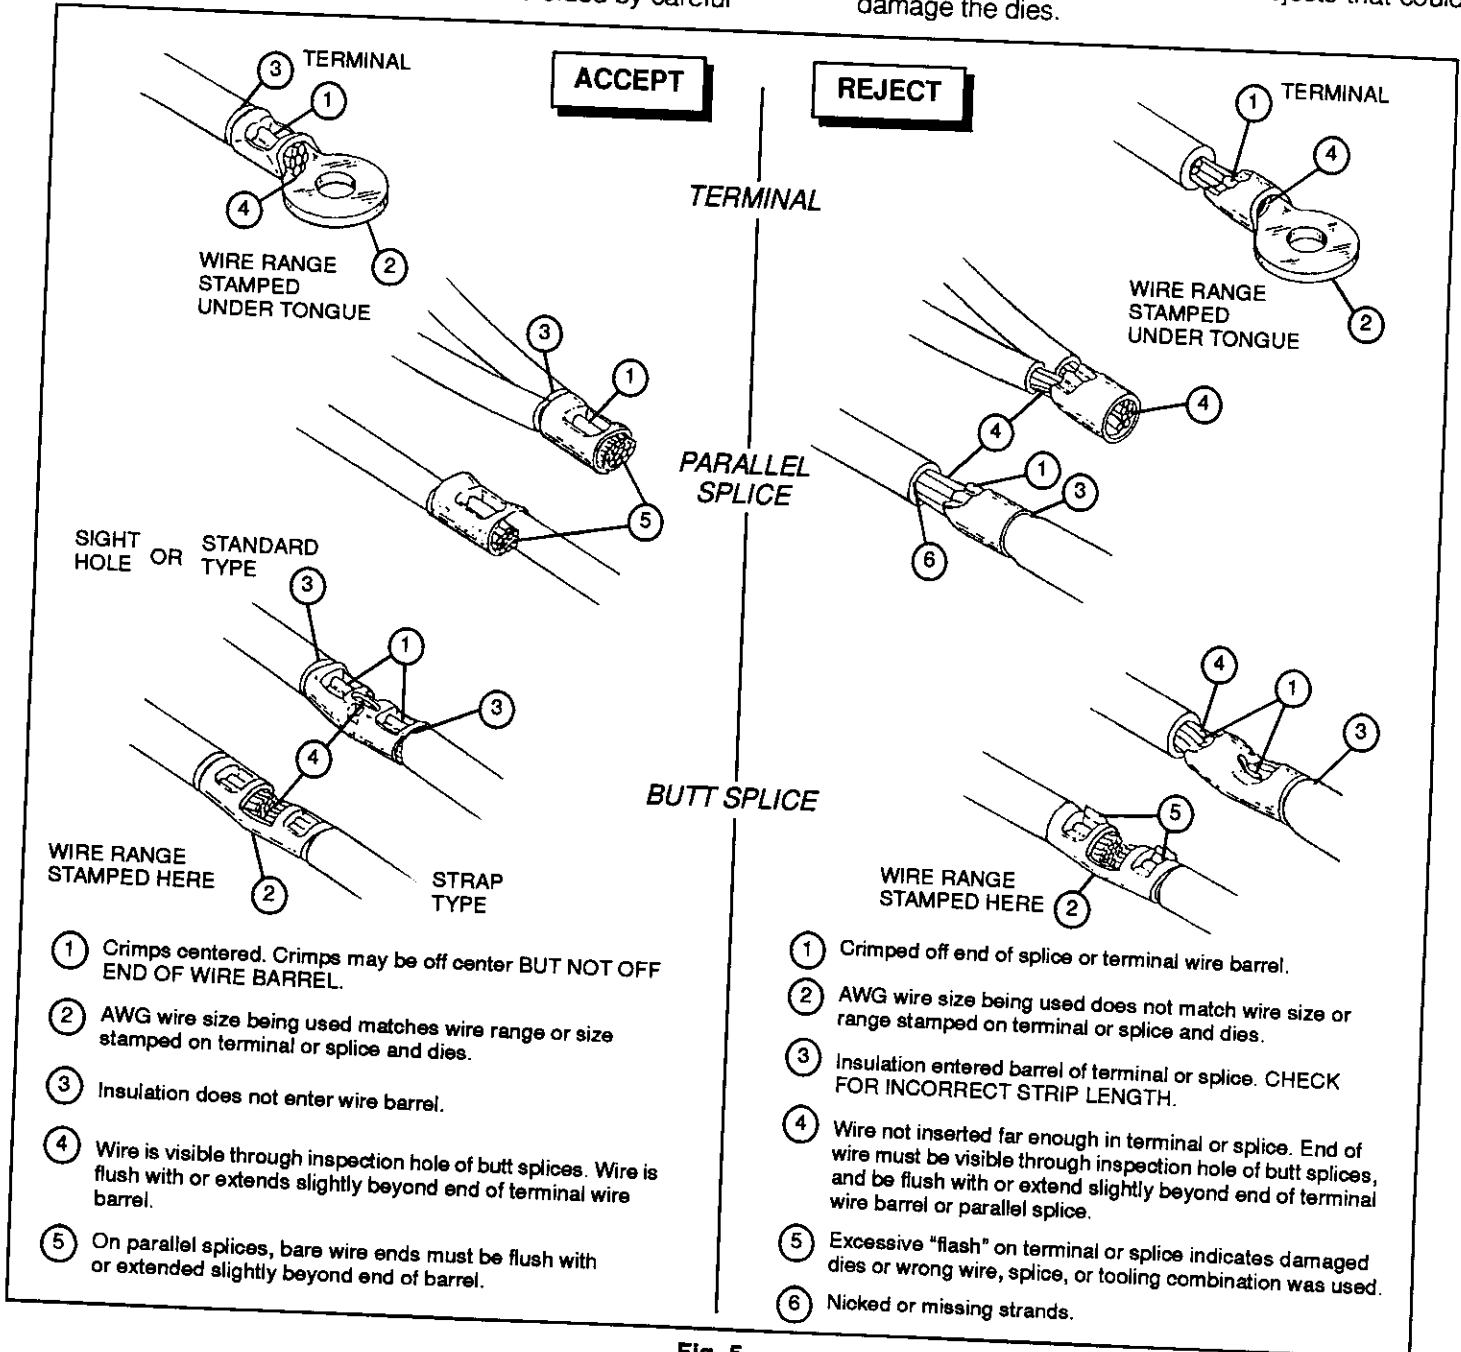

Fig. 5
5.1. Crimp Inspection (Figure 5)
Inspect crimped terminals or splices by checking the features described in Figure 5. Use only terminals or splices that meet the conditions shown in the ACCEPT column. Terminals and splices displaying the features shown in the REJECT column can be avoided by careful